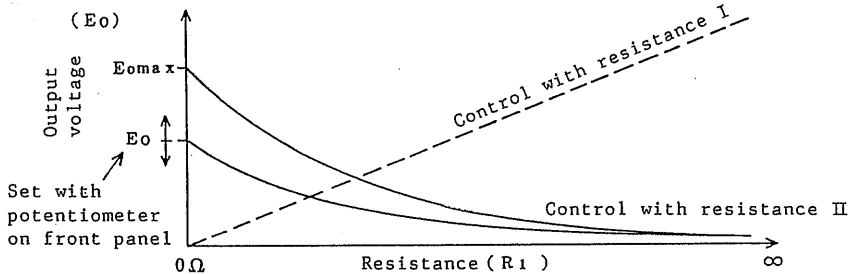
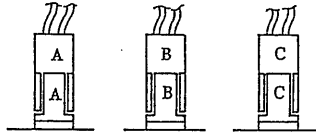
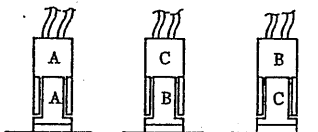

Figure 3-10
Figure 3-11
Figure 3-14
The output voltage (E_o) is inversely proportional to the external resistance signal (R_l) as shown in Figure 3-10. When the external resistance signal circuit is made open (the resistance has become infinite) due to switching of resistances or by inadvertent handling of the external resistance signal circuit, the output circuit is driven toward the safer side (the output voltage becomes zero volts).
- (1) Disconnect the input power cord. Remove the cover referring to Section 4-1-3. Remove PC board A-650.
- (2) Connect the connectors A, B and C on PC board A-650 for the mating symbols as shown in Figure 3-11. (See Figures 3-10 and 3-3.)
- (2) Change the connections of connectors A, B and C on PC board A-650 as shown in Figure 3-14. (See Figures 3-10 and 3-3.)
- (3) Connect the external resistance signal (R_2) between terminals ④ - ⑤. ($0 \leq R_2 \leq 10 \text{ k}\Omega$)
- (4) Throw the R/L switch to the L (local) position.
- (5) If the FINE VOLTAGE setting potentiometer has been modified for current setting, turn the potentiometer to the counterclockwise extreme position, remove its knob, and install the guard cap. (See Item (10) of Section 2-1.) (This procedure is not needed for the PAB110-0.6A, PAB250-0.25A and PAB350-0.1A which have no FINE VOLTAGE setting potentiometer.)
- (6) Paying attention so that the PC board is not contacted with the chassis, turn on the POWER switch and the OUTPUT switch.
- (7) Set R_2 at 10 k Ω . Adjust potentiometer CC MAX on PC board A-650 so that the output current becomes the maximum rated current. This procedure is for full-scale adjustment. (See Figure 3-10.)
- (8) Carefully install the PC board and the cover.
(9) Post the following seal on the transparent cover above terminals ④ and ⑤: